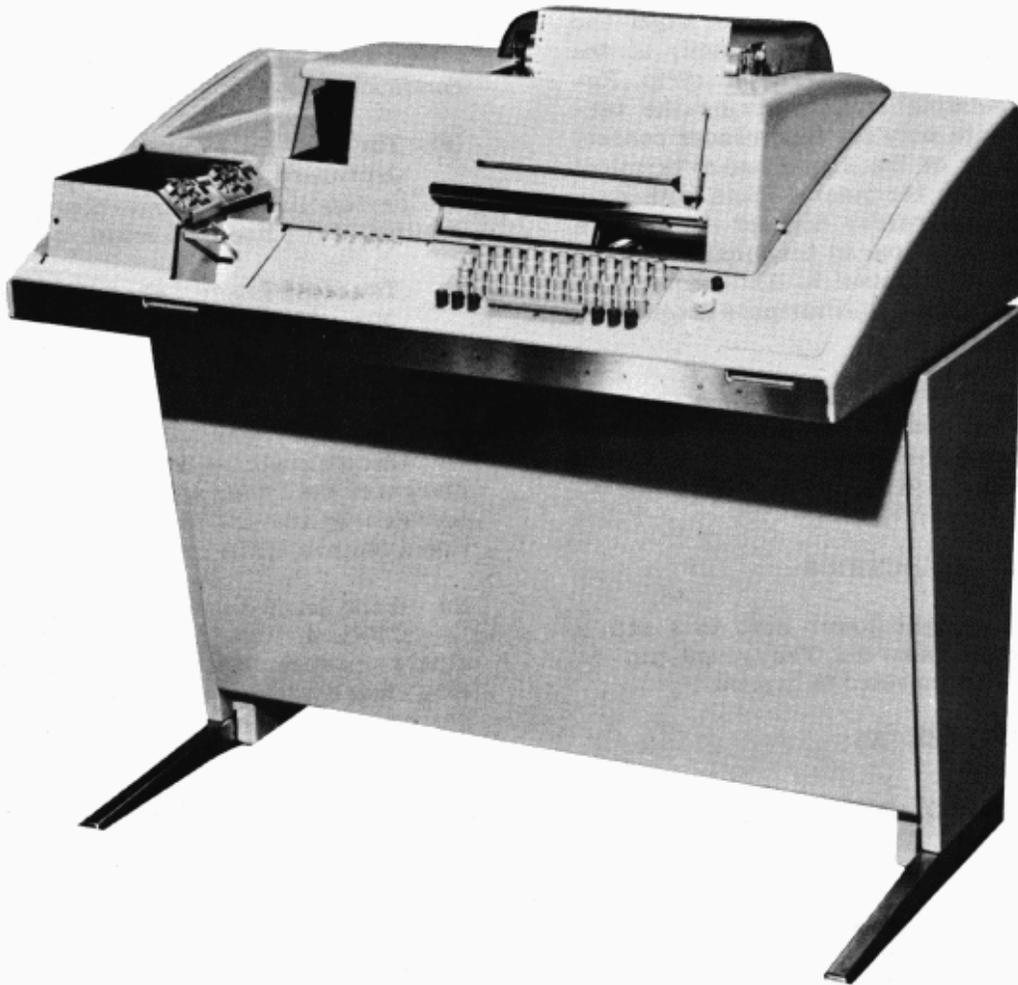

Figure 1 — 35 Automatic Send-Receive Set for Data Communications Service
2.07 Except for installation of the typing unit, factory assembled sets are delivered with all components in place and properly adjusted in the cabinet. Either friction feed or sprocket feed typing units may be installed in factory assembled sets. (See Figure 1.)